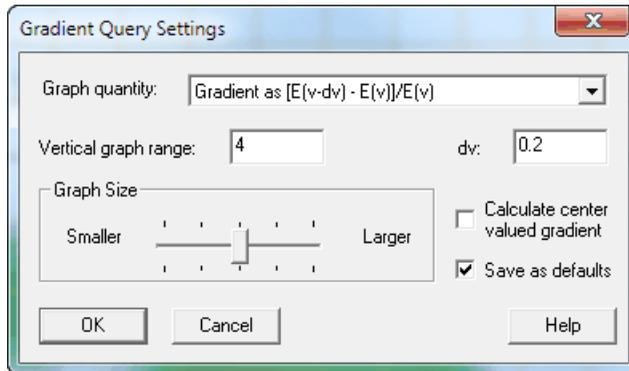

Figure 2.4 Gradient measurement settings
- 1 In the output view, right-click and click **Gradient Query Settings** on the shortcut menu. Complete the dialog box as shown in Figure 2.4.